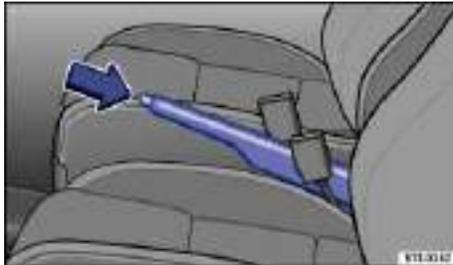

Fig. 132 Between the front seats: Parking brake.
- Pull the lever up slightly and press the release button ⇒ fig. 132 (arrow).